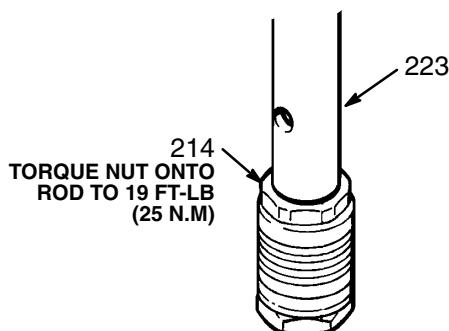

Fig 13
4. Torque the nut (214) onto the rod (223) to 19 ft-lb (25 N.m). Use two wrenches to maintain the alignment as mentioned in the **NOTE**. See Fig 13.